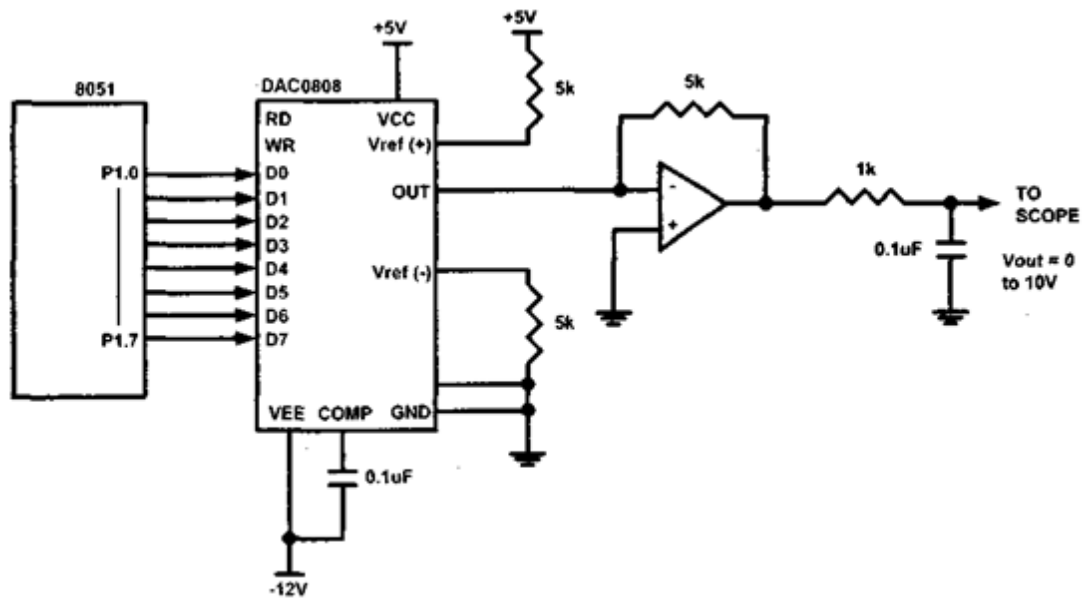

Figure 5.5.4 8051 Connection to DAC0808
- The 8051 connection to DAC0808 is as shown in the below Figure 5.5.4.
In order to generate a stair-step ramp, set up the circuit in Figure 5.5.4 and connect the output to an oscilloscope. Then write a program to send data to the DAC to generate a stair-step ramp.